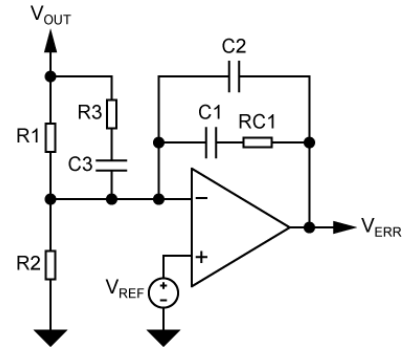

Figure 14. Type II Compensation Network
Due to the output capacitor ESR creating a zero within the range of the desired crossover frequency (Fco), this design only requires that one adds one zero and one associated pole. The phase boost in this case occurs between the zero (FZ) and the pole (FP) of the compensator. Therefore, the zero gain crossover frequency (Fco) will be between these two points. The zero is created by RC1 and C1. The pole should be set at ≤one half switching frequency to reduce noise sensitivity. The plateau gain (gain between FZ and FP) is set by RC1 and R1, $A_{V_{PLATEAU}} = RC1/R1$, this should be set to a modest gain of five-to-ten to improve transient response. This compensation network is shown in Figure 14.